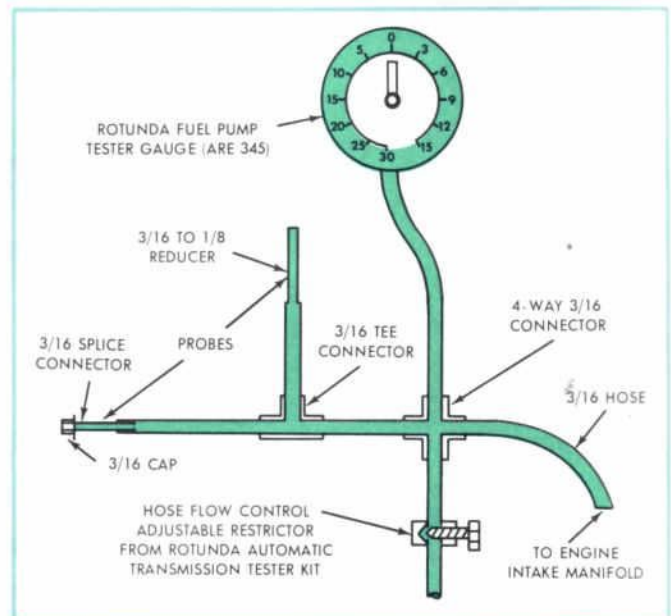

Fig. 1 — Vacuum Gauge Tester
3. Attach a vacuum gauge to one of the 4-way connector nipples (Fig. 1).
6. Install a short length of hose to the two open ends of the Tee connector (Fig. 1). Install a 3/16-1/8 reducer in one hose and a 3/16 splice connector in the other hose. By adding or removing connectors (splices) to these test probe hoses, these hoses can be connected to any one 3/16 or any one 1/8 hose, nipple, or connector, while the other test hose is plugged, or both the 3/16 and 1/8 tester probes can be used at the same time.